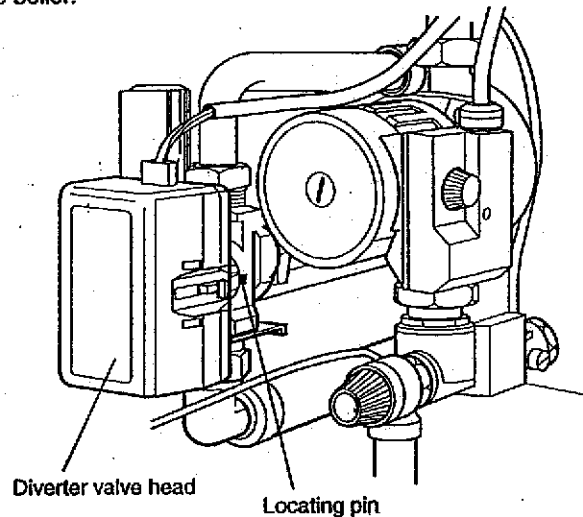

Fig. 20
9.21 DIVERTER VALVE (See Fig. 20)
- 3 Push in the locating pin on the right hand side of the head where it meets the brass body (see Fig. 20) and turn the head fully anticlockwise (about $\frac{1}{4}$ of a turn) and lift off the head.